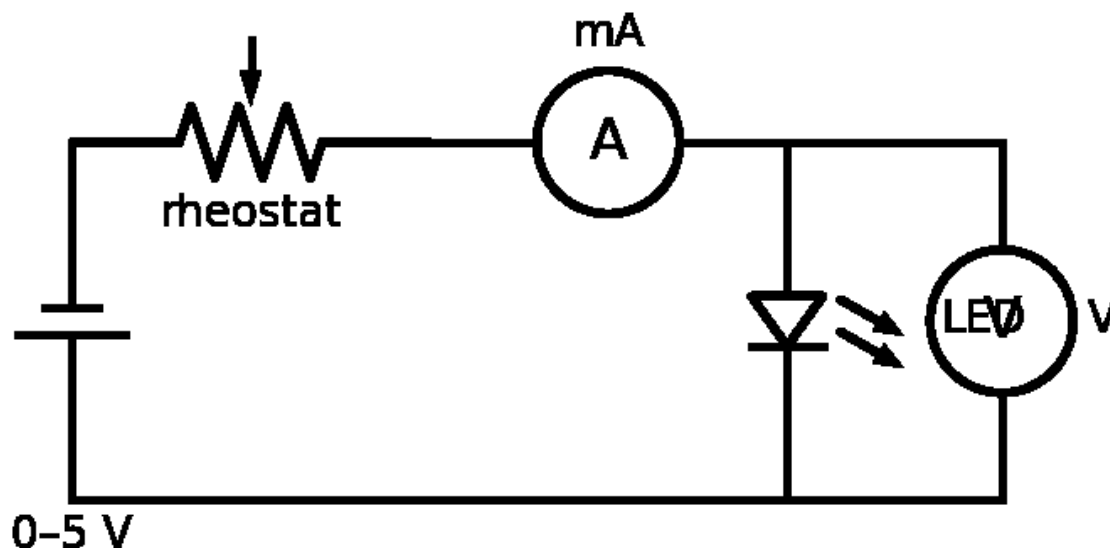

Figure 8.1: Circuit to find the threshold (knee) voltage of an LED.
- Connect the red LED in forward bias as in Figure 8.1.